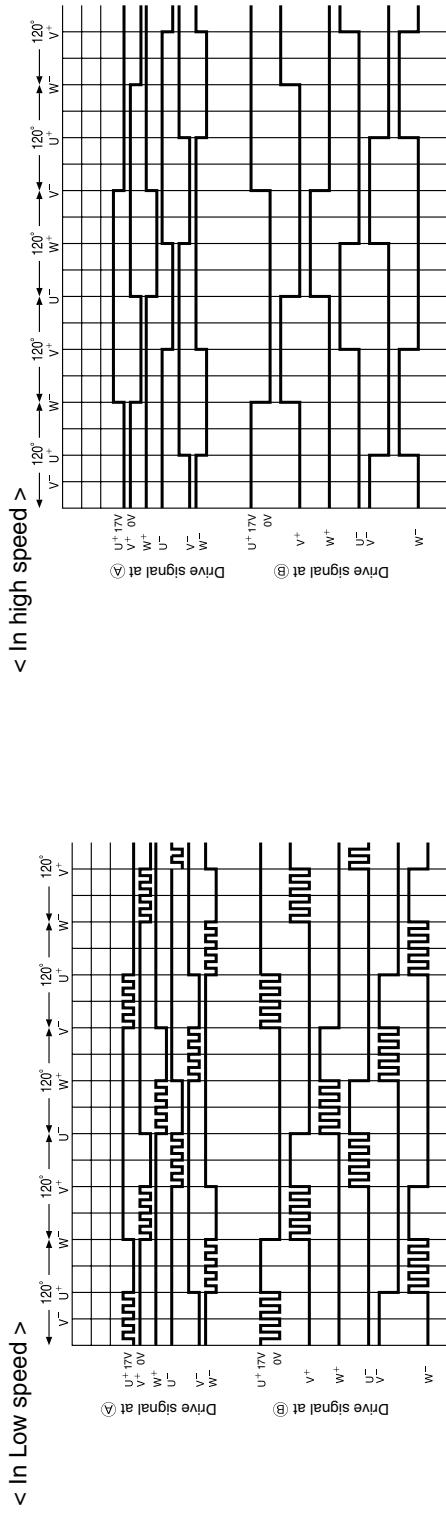

Fig. 6-3
- In high speed rotation mode (PWM range), as shown in Fig. 6-3, 0-5V drive signal is output from microcomputer for each phase (with no chopper because of full duty). Signal output from microcomputer is input to IC1 and is inverted by active Lo to become 0-17V drive signal; it is then applied to each phase transistor gate to drive.